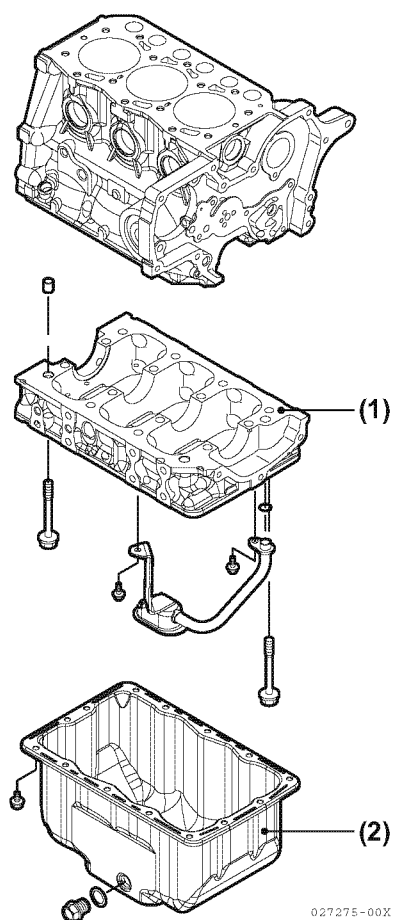

Figure 6-103
2. Apply a continuous bead of ThreeBond Liquid Gasket No. 1212, Yanmar Part No. 977770-01212 to the mounting surface of the oil pan (Figure 6-103, (2)) and crankcase extension (if equipped) (Figure 6-103, (1)). Be sure to circle each bolt hole.
3. If equipped, reinstall the crankcase extension (Figure 6-103, (1)). Reinstall the oil pan and tighten the bolts securely.